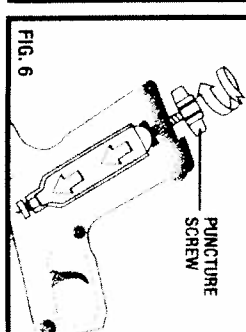

FIG. 6
E. While continuing to hold gun in an inverted position, replace the left grip cover, point the muzzle in a safe direction and turn the puncture screw clockwise to puncture the CO2 cylinder (Fig. 6). Continue turning the screw RAPIDLY until finger tight. **NOTE:** A slight seepage of CO2 gas may occur until puncture screw is tight.